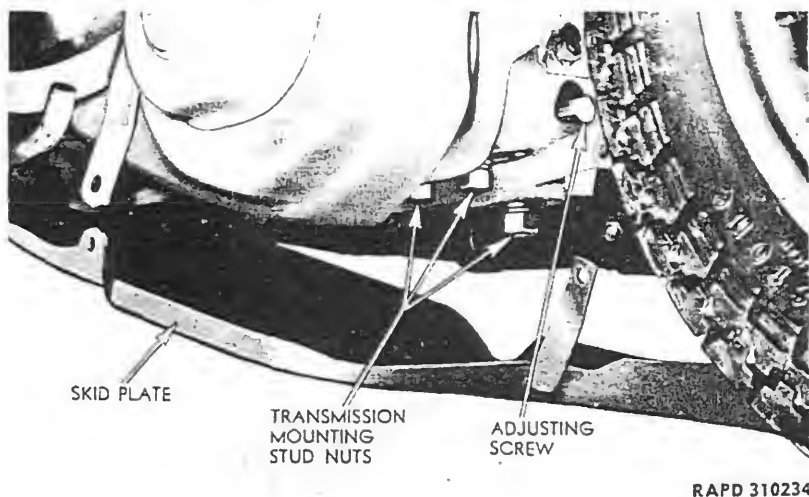
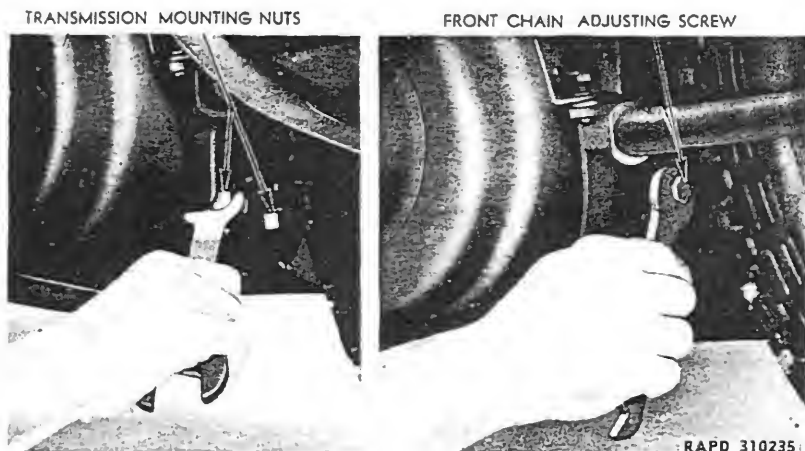

Figure 37—Skid Plate Dropped to Show Location of Transmission Mounting Nuts
Figure 38—Transmission Mounting Nuts and Chain Adjusting Screw
(2) Obtain tightest chain position by rotating chain to position of least slack. Test amount of slack by lifting and depressing chain with finger. Use a free up-and-down motion of the finger to make this test.
(3) Loosen the three transmission mounting stud nuts underneath transmission mounting base. (It is not necessary to drop skid plate to reach stud nuts (fig. 37).) Transmission can now be shifted on its mounting base by means of adjusting screw, head of which protrudes through notch of frame fitting, located at rear of transmission (fig. 38).